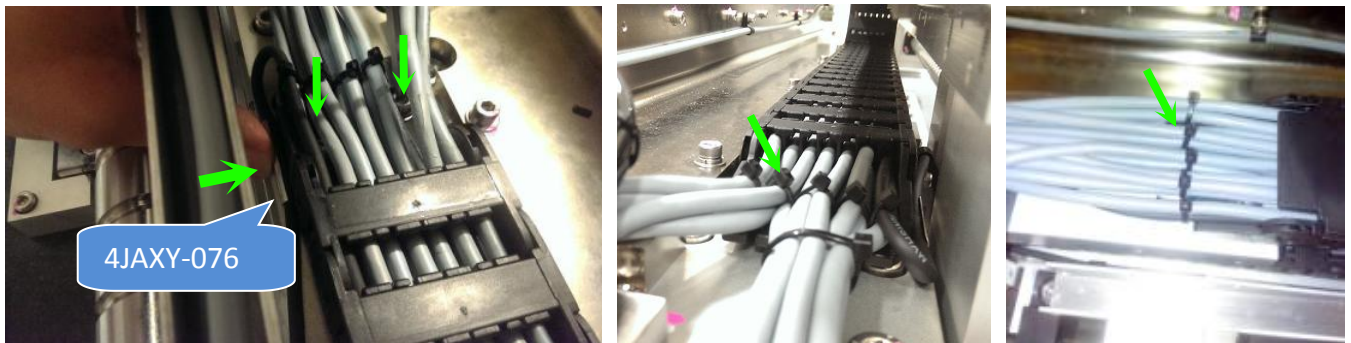

Figure 38 Stepper Motor Cable Routing (X Axis E-Chain)
40. Gently push BRACKET, ENCODER CABLE (P/N, 4JAXY-076) towards rear side .Tighten 2x screws, & reassemble E-Chain cover. Secure Cable with cable tie as below Figure 38